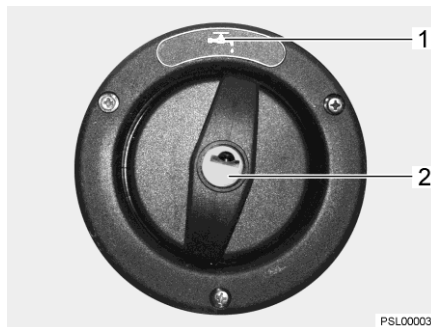

Fig. 87 Cap for the drinking water filler neck
The drinking water filler neck is indicated by the symbol "☰" (Fig. 87,1). The cap is opened and closed using the key for the external flap locks.
- Insert key into locking cylinder (Fig. 87,2) and turn a quarter turn in an anticlockwise direction.
- Open drinking water filler neck (Fig. 87).